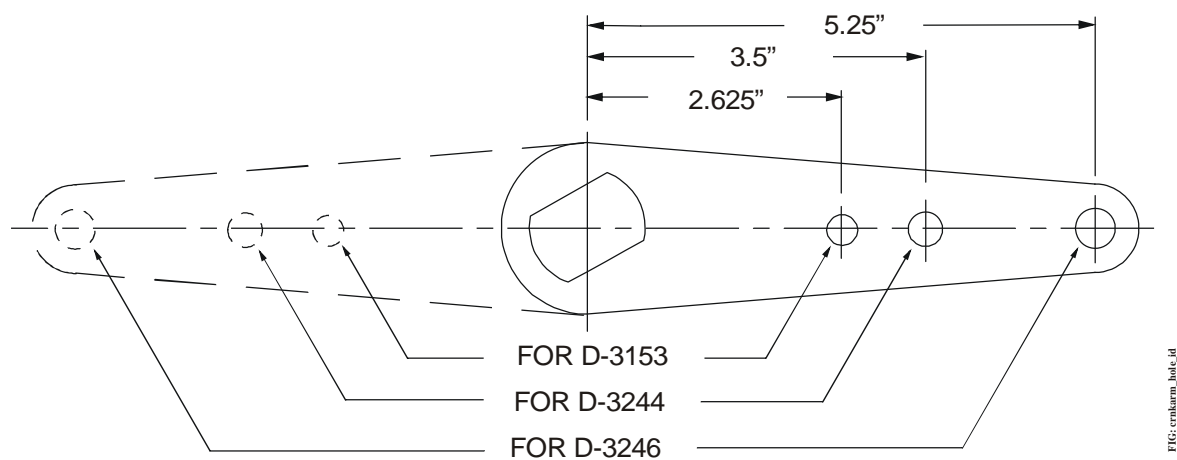

Figure 4: Crankarm Hole Identification
9. If the valve is equipped with a pneumatic piston type actuator, remove the strapping from the actuator. Move the disc to its normal position and connect the actuator clevis to the appropriate hole in the crankarm using the clevis pin provided (see Figure 4). If two actuators are provided, perform the above procedure on each actuator.
8. If the valve is equipped with a pneumatic piston type actuator, remove the strapping from the actuator. Position the disc of the **run** valve to its normal position and connect the actuator clevis to the appropriate hole in the crankarm using the clevis pin provided (see Figure 4). If two actuators are provided, perform the above procedure on each actuator.